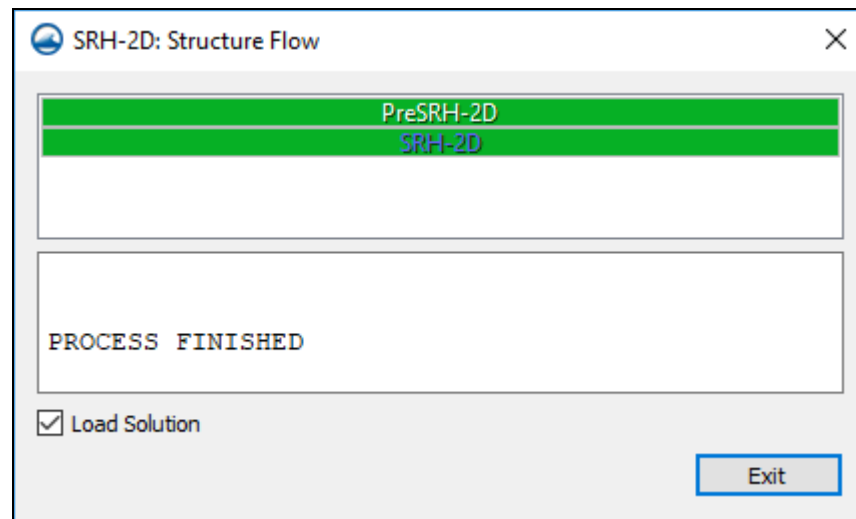

Figure 4 SMS Model Wrapper
6. Make sure *Load Solution* is checked, as shown in Figure 4, in the SMS model wrapper and click **Exit** to close the *SRH-2D: Structure Flow* dialog.